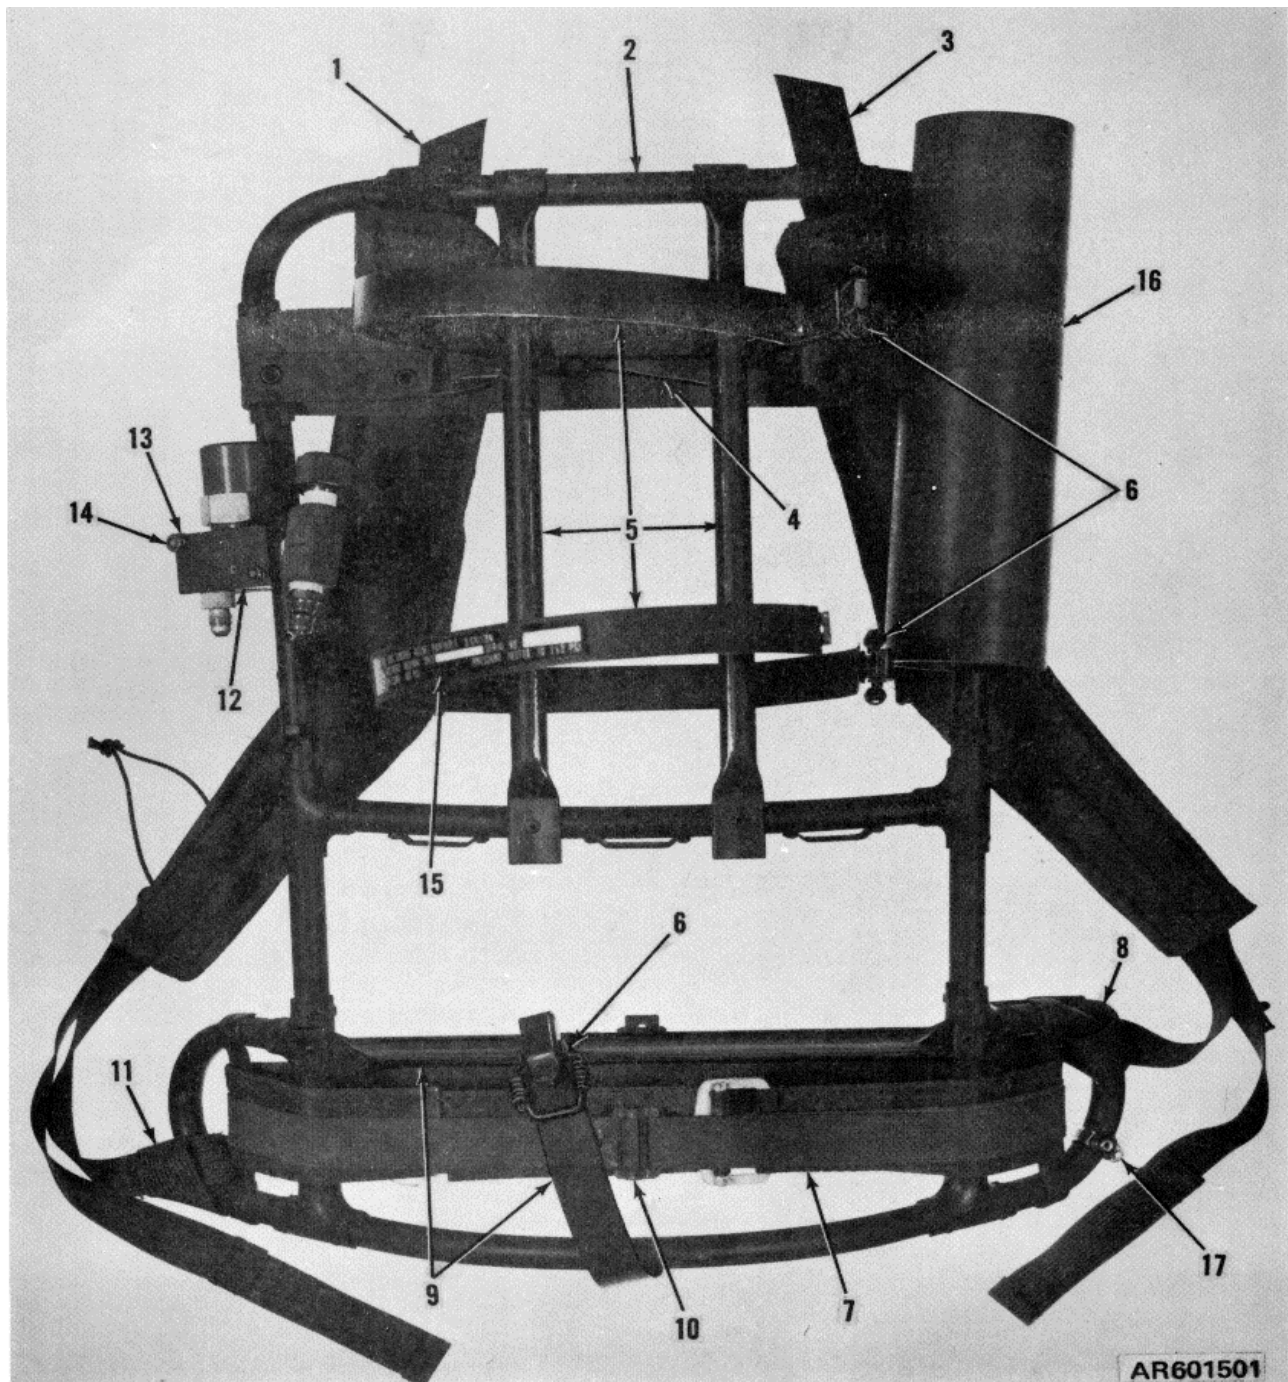

Figure 1-2. Frame and harness assembly
b. *Frame and Harness Assembly.* The frame and harness assembly is shown in figure 1-2. The frame and
(1) Place arms through the shoulder straps.
(2) Adjust the harness for correct fit by use of the slide buckles of the shoulder and waist straps (1, 3, and 10, fig. 1-2).
(3) Adjust straps until the disperser feels comfortable to the operator, yet is held snugly so that it does not shift around when the operator moves or changes position.